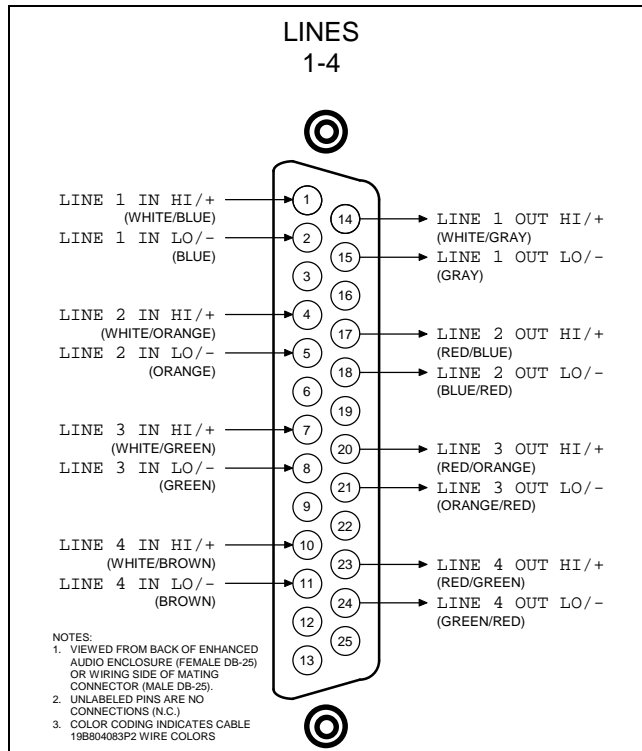

Figure 6 – Audio Line Input And Output Connections At Enhanced Audio Enclosure
At the C3 Maestro, audio connections terminate at the DB-25 connector on the Enhanced Audio Enclosure's rear panel. This connector is labeled "LINES 1-4". Its pin-out is shown in Figures 6 and 7A and Table 11. It has female contacts; therefore, the required mating connector is a male DB-25.
- ☐ If cable 19B804083P2 is used, mate its DB-25 to the Enhanced Audio Enclosure, route it to the CEC/IMC, shorten it as required, and punch the wires to the correct punch block's terminals. Wire color coding is indicated in Figure 6 and in the cable's assembly diagram (page 22). Refer to the CEC/IMC customer-specific system documentation print-outs for CEC/IMC Audio Concentrator Card pin-outs which map over to the punch blocks via Telco cables.
- ☐ If cable 19B804083P2 *is not used*, fabricate an equivalent cable, less unnecessary pairs, to interconnect the required pairs between the Enhanced Audio Enclosure's "LINES 1-4" DB-25 connector and the appropriate CEC/IMC Audio Concentrator Card's pins or CEC/IMC punch block's terminals. Shielded cabling is recommended. See Figures 6 and 7 and Tables 7 and 11 for details.